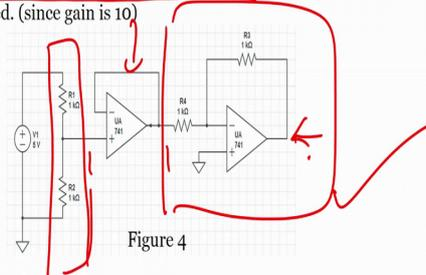

Figure 4
- Using voltage buffer along with the inverting amplifier connected between resistive divider circuit and the inverting amplifier as shown in Figure 4 below will provide a very high input impedance